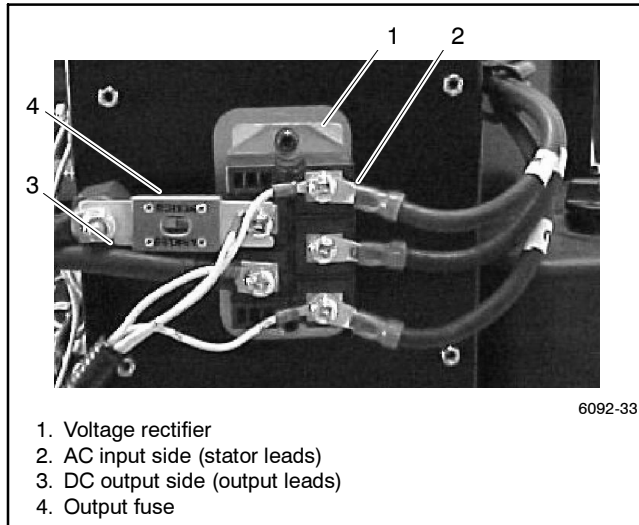

Figure 5-5 Voltage Rectifier and Fuse
A fuse on the output (DC) side of the voltage rectifier interrupts the generator output in the event of a 50% overload or a short circuit in the wiring between the generator and the load. See Figure 5-5. Replace the fuse if it blows. See Maintenance and Service Parts in the Introduction of this manual for the fuse part number.
If there is no DC voltage at the output connector, check the fuse (see Figure 5-5). Test for output at the rectifier to check the output leads. Check for AC voltage into the rectifier. If there is AC voltage coming into the rectifier, but no DC output, replace the rectifier. The voltage rectifier has no adjustments.